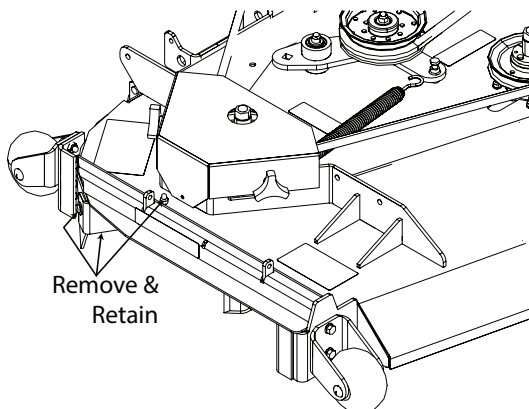

Figure 3-34. Removing the Turbo Baffle
5. Remove the turbo baffle from the cutter deck. See Figure 3-34.